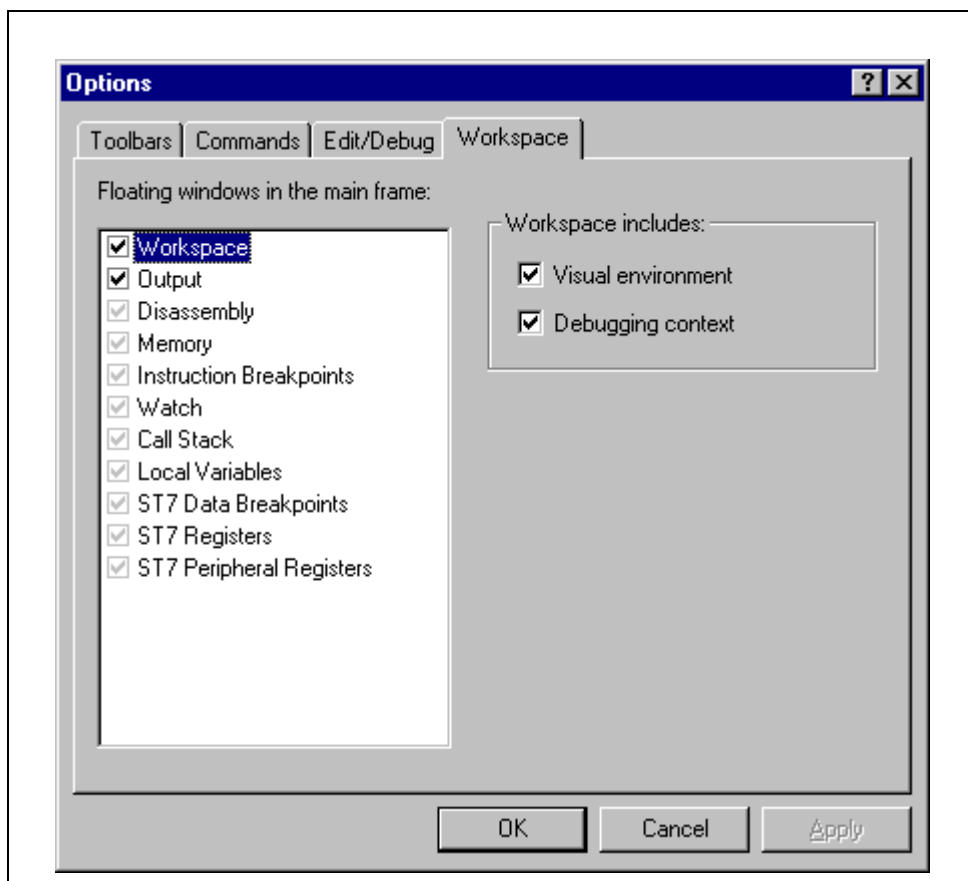

Figure 7: Options window
- 2 In the Options window that opens (see *Figure 7 on page 32*), select the **Workspace** tab.